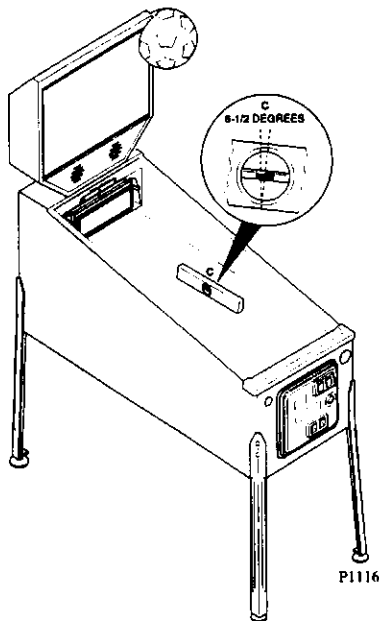

FIGURE 10: PLAYFIELD LEVELING
19) Place a level or protractor on the playfield surface (see Figure 10). Adjust front and/or rear leg levelers to obtain a 6-1/2° incline. Tighten leg leveler nuts firmly.